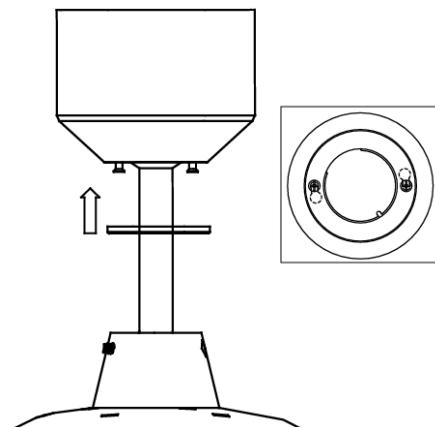

Fig. 6
- Cover the mounting bracket with the canopy cover. Ensure all electrical wirings are tucked inside the canopy and that they are not damaged during this step, and secure with screws. **Fig. 6**
Zet tenslotte de afdekkap vast op de schroeven door deze met de klok mee draaien. **Fig. 6**